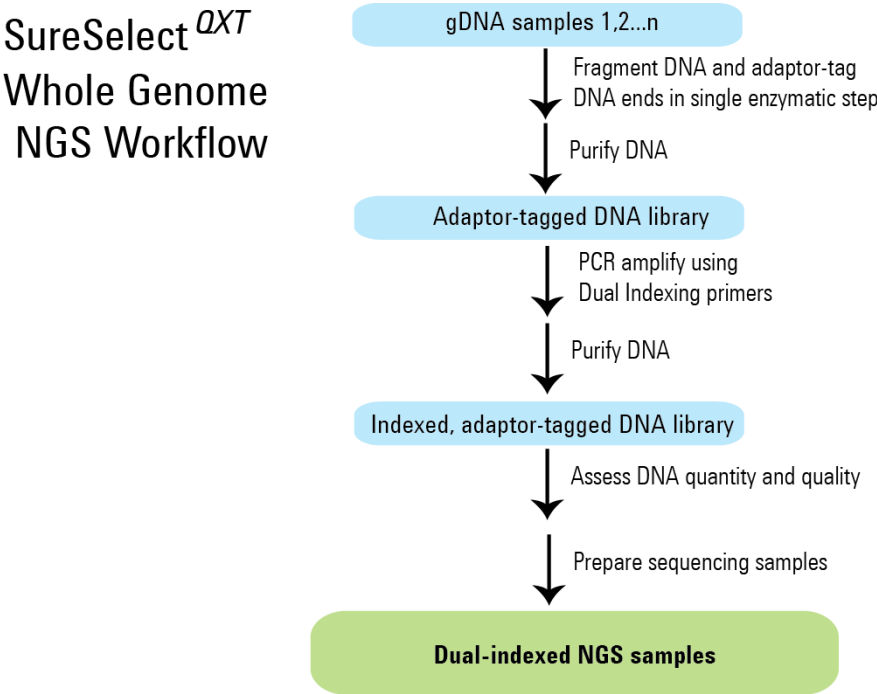

Figure 3 Overall sequencing sample preparation workflow.
Figure 3 summarizes the SureSelect^{QXT} whole genome library prep workflow for samples to be sequenced using the Illumina paired-read sequencing platform. Each sample to be sequenced requires an individual library preparation reaction. The samples are then tagged by PCR with dual index sequences. Depending on the experimental design, up to 96 samples can be pooled and sequenced in a single lane using the dual index tags that are provided with SureSelect^{QXT} Library Prep kits.
- Dual index assignments for the DNA samples can affect sample placement decisions at the beginning of the workflow. For example, all samples on the same row of the DNA sample plate must be assigned to the same P5 indexing primer during sample indexing (see Figure 3). It is important to review and understand the guidelines for assignment of dual indexing primers on page 45 while planning sample placement for the run to ensure that the indexing design is compatible with the initial DNA sample placement.